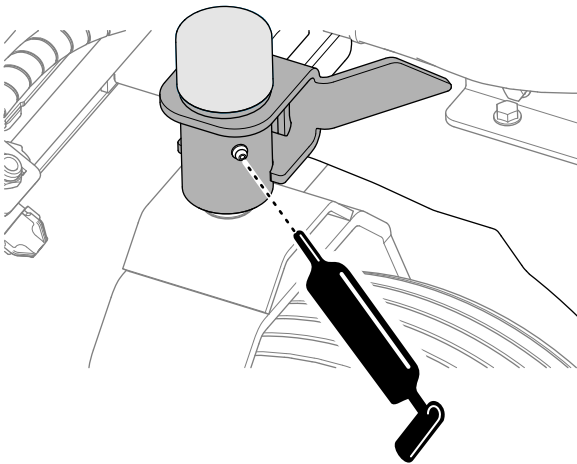

Figure 64
2. Wipe the grease fittings at caster clean with a rag (Figure 64).
3. Connect a grease gun to the fittings (Figure 64).